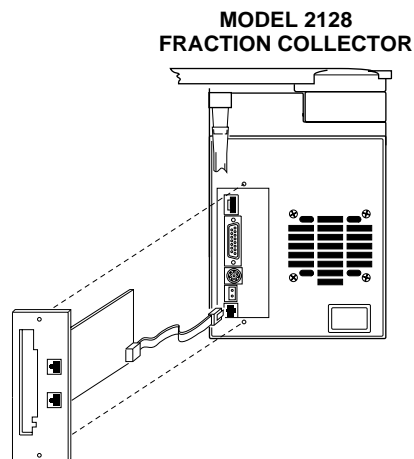

Figure 1. Inserting the Upgrade System Communication Board into the Model 2128 Fraction Collector (shown with its back cover removed)
- a. Use a Philips screwdriver to remove the two screws and washers from the back panel of the fraction collector. (Refer to Figure 1.)
- b. From the Interface Kit, remove the upgrade interface board from its package and orient it for placement inside the Model 2128. (Refer to Figure 1.)
- c. Connect the upgrade board's instrument bus cable to the connector inside the fraction collector. (Refer to Figure 1.)